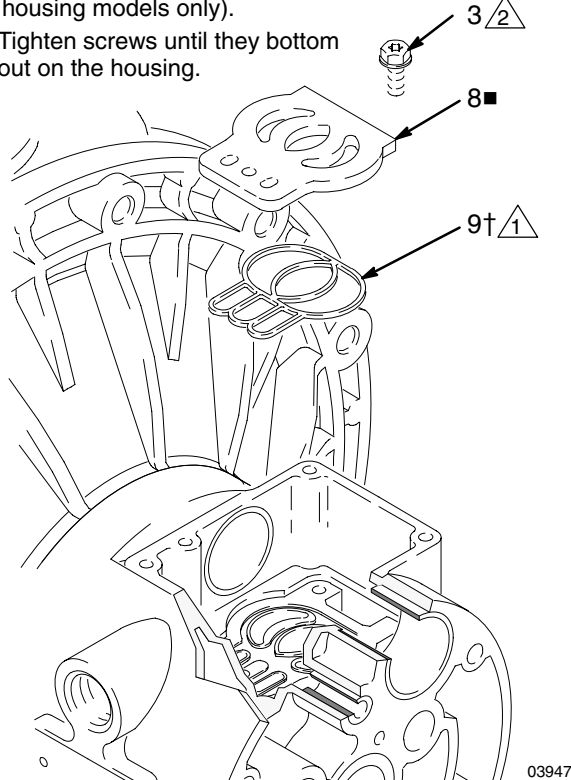

Fig. 9
5. Inspect the valve plate (8) in place. If damaged, use a Torx (T20) screwdriver or 7 mm (9/32") socket wrench to remove the three screws (3). Remove the valve plate (8) and, on aluminum center housing models only, remove the seal (9). See Fig. 9.
2. On aluminum center housing models, install the valve plate seal (9) into the groove at the bottom of the valve cavity. The rounded side of the seal **must face down** into the groove. See Fig. 9.
3. Install the valve plate (8) in the cavity. On aluminum center housing models, the plate is reversible, so either side can face up. Install the three screws (3), using a Torx (T20) screwdriver or 7 mm (9/32") socket wrench. Tighten until the screws bottom out on the housing. See Fig. 9.